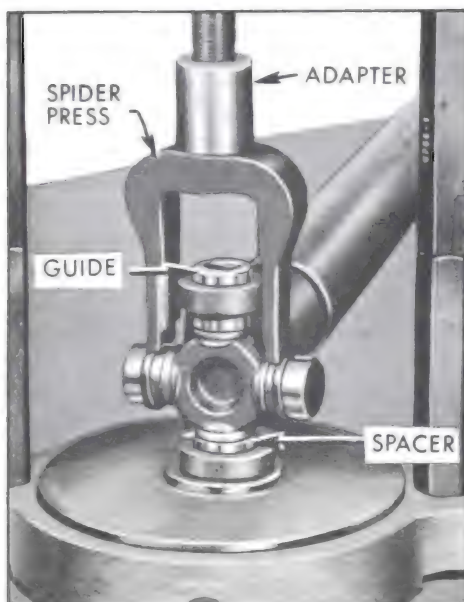

Figure 6-61—Removing Bearing with Guide and Spacer in Place
6. Install Spacer J-9522-5 adjacent to the bearing as in Step 4 and remove the bearing. See Figure 6-61.